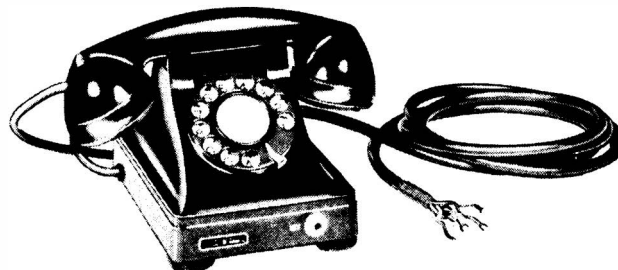

Figure 1-17. Telephone Set TA-267/U
f. TELEPHONE SET TA-267/U.—Telephone Set TA-267/U (see figure 1-17) is a modified hand telephone. It uses an eleven-position dial instead of the ordinary ten-position dial. A jack is provided on the front of the unit for the insertion of a telegraph-key plug for remote keying.